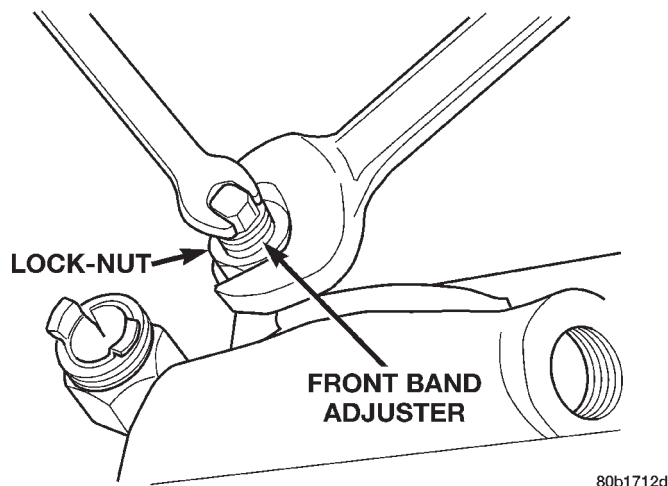

Fig. 257 Front Band Adjustment Screw Location
- (1) Raise vehicle.
- (2) Loosen band adjusting screw locknut (Fig. 257). Then back locknut off 3-5 turns. Be sure adjusting screw turns freely in case. Apply lubricant to screw threads if necessary.
- (3) Tighten band adjusting screw to 8 N·m (72 in. lbs.) torque with Inch Pound Torque Wrench C-3380-A, a 3-in. extension and 5/16 socket.